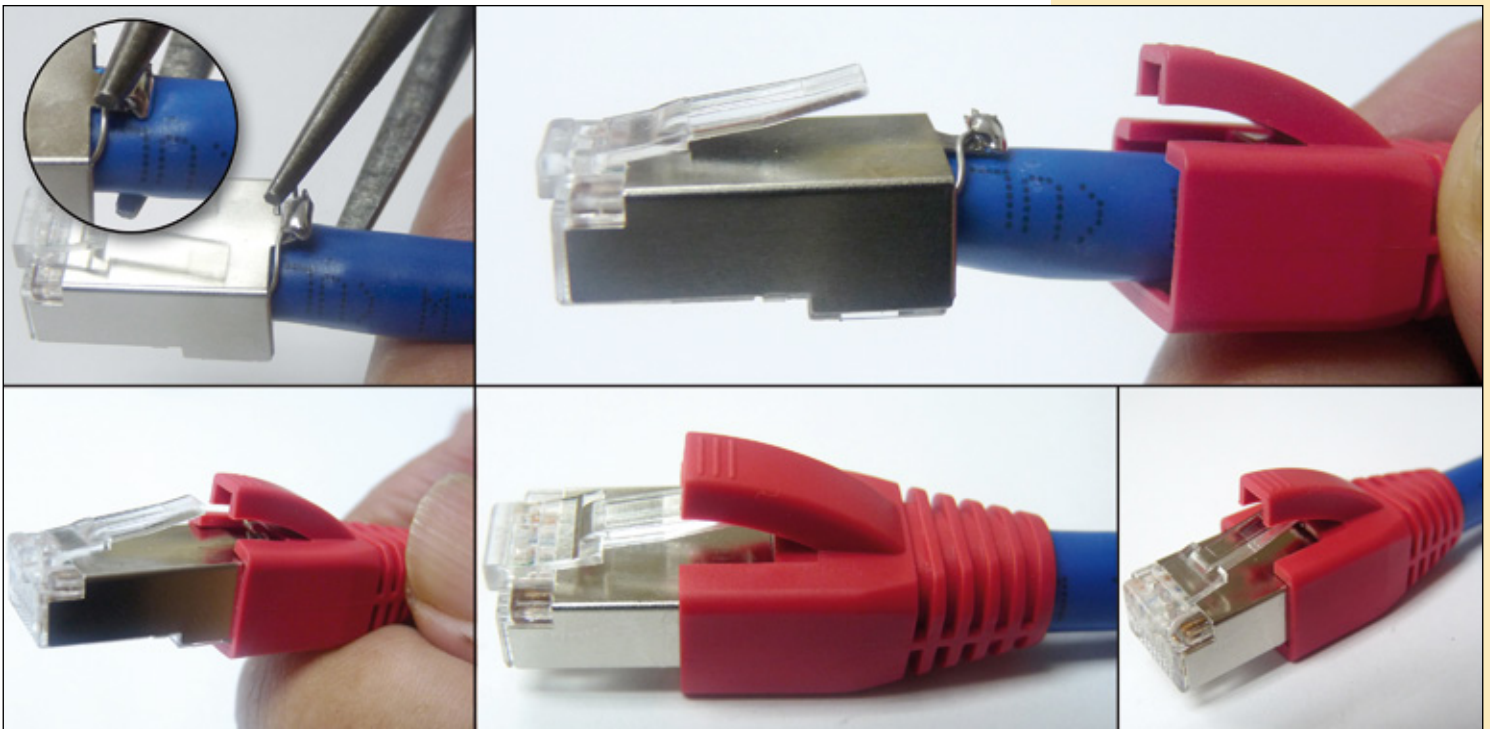

Figure 25
- 20 With the help of the set of pliers tool, crimp the soldered lug to the cable to level it so it can enter the boot opening, then slide the boot against the plug to finish the termination of the cable, as shown in the images of Figure 25.